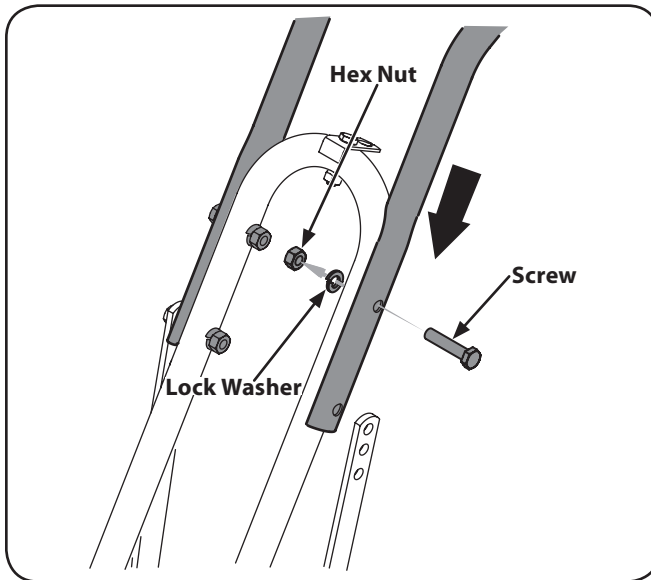

Figure 3-2
- Using two $\frac{5}{16}$ "-18 x 1- $\frac{1}{2}$ " screws, $\frac{5}{16}$ " split lock washers and $\frac{5}{16}$ "-18 hex nuts, loosely attach the handlebar support using the upper holes. Tighten the two screws securely. See Fig. 3-2.
- There are three height adjustment holes in the two handlebar support brackets. Use a setting that will position the handlebars at approximately waist level when the tines are 3-4" into the soil. Loosely attach the support brackets to the outside of the handlebar assembly using two $\frac{5}{16}$ "-18 x 1- $\frac{1}{2}$ " screws, $\frac{5}{16}$ " split lock washers and $\frac{5}{16}$ "-18 hex nuts. Refer to Fig. 3-2.